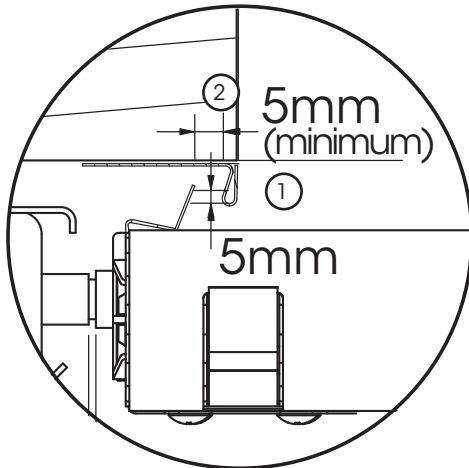

Fig. 1.7
- The overlap ① between the jamb and panel seal must be about 5mm with no direct path through the seals for embers to pass Fig 1.7.
- This distance ② between the seals will be enough to prevent the seals catching.